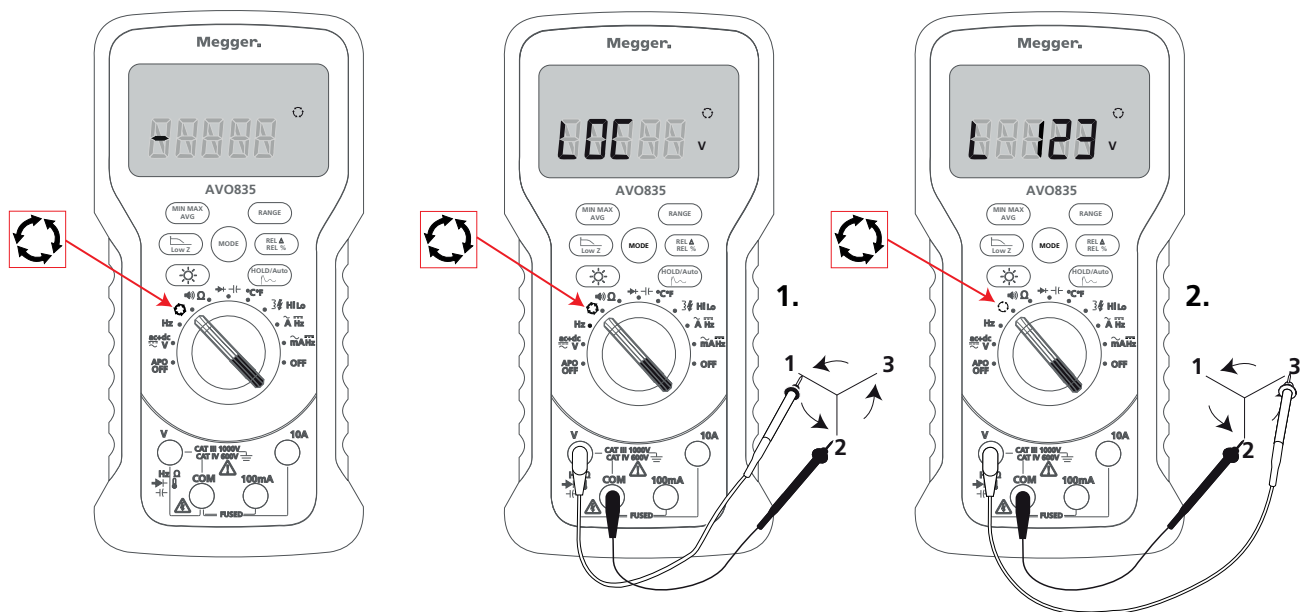

Fig 2: Phase Rotation / Sequence Detection Set-up
1. Set-up the instrument as shown in Fig 2.
3. Connect the V and COM probes to L1 and L2 phases of the three phase supply (1).
5. Once **LOC** shows change L1 to third phase (L3) within eight seconds (2).